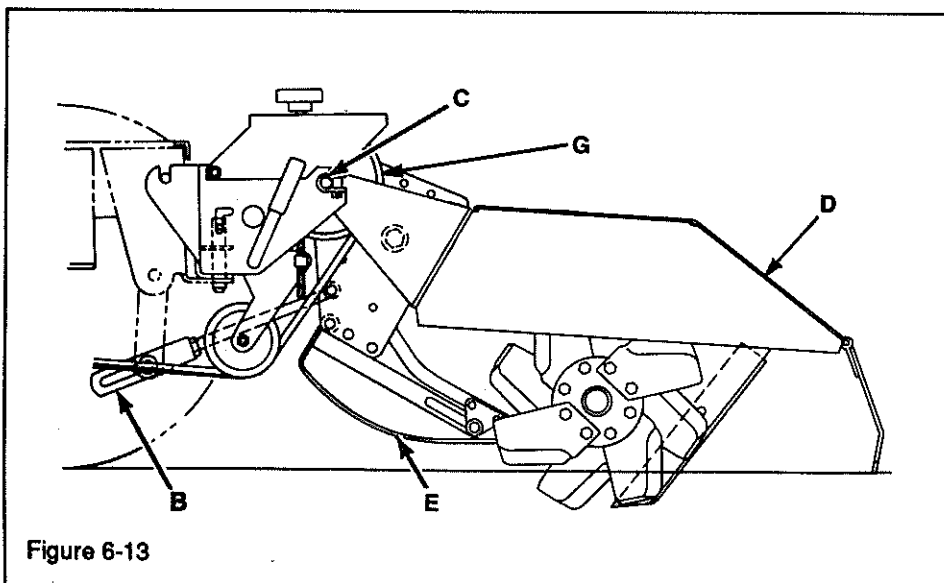

Figure 6-13
- Disconnect lift rod (B, Figure 6-13).
- Remove clevis pins (C) at hitch.
- Remove tiller cover (D).
- Remove depth shoe (E).
- Remove drive sheave (G, Figure 6-13) and key from shaft.
- a. Screw locking rings (K) and (Y) into the case until the locking ring seats against the bearing carrier. Install a new cotter pin to ensure the locking collar does not rotate.
- c. Re-install drive sheave (G, Figure 6-13).
- e. Re-install depth shoe (E, Figure 6-13) and replace tiller (D).